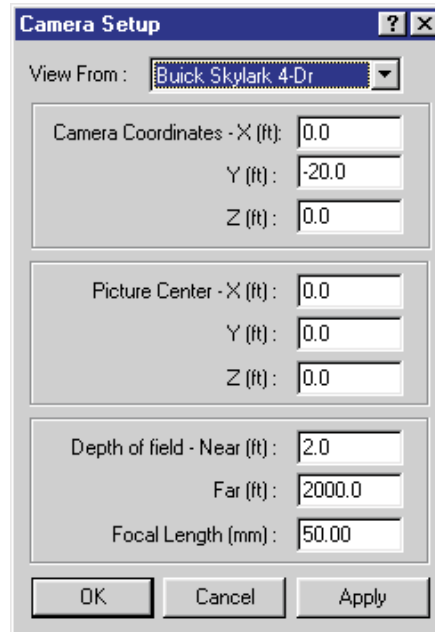

Figure 5-13 Set Camera dialog, used for attaching the camera to the vehicle and setting the view.
- Choose *Set Camera* from the View menu. The Set Camera dialog is displayed (see Figure 5-13).